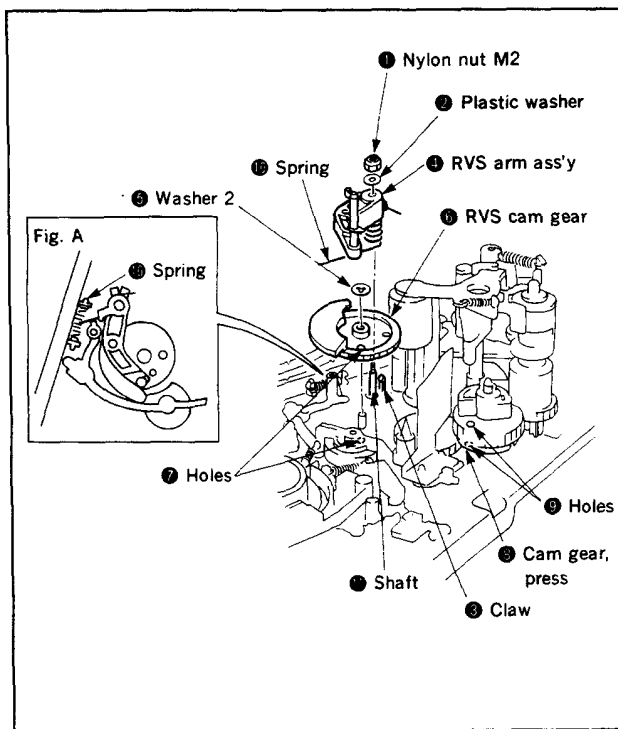

Fig. 3-14.
### 3-8. RVS ARM ASS'Y AND RVS CAM GEAR (Fig. 3-14)
- 1) Remove the reel lock release ass'y. (Refer to Fig. 3-14.)
- 2) Disengage the three claws marked ① and the claw marked ②, then remove the tension regulator band ass'y ③.
- 3) Unhook the end of the spring ④ from the chassis.
- 4) Disengage the claw ⑤, then pull out the tension regulator arm ass'y ⑥.
- Roll up the tension regulator band ③ on the S-reel by turning the S-soft brake arm ass'y ⑦ in the direction of the arrow.
- Hook the spring ④ at the center of the spring hook ⑧.
- Do not touch the brake shoe of the tension regulator band ass'y ③ directly with your fingers.
- Mount the tension regulator arm ass'y ⑥ at the position shown in Fig. A below.